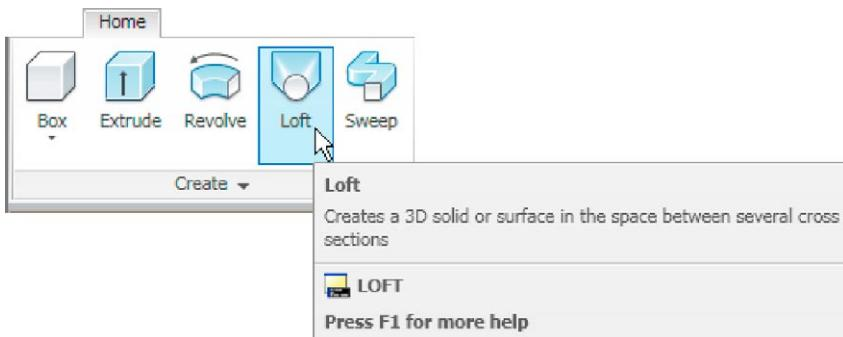

Fig. 12.40 Selecting the Loft tool from the Home/Create panel
3. Call the **Loft** tool with a *click* on its tool icon in the **Home/Modeling** panel (Fig. 12.40).